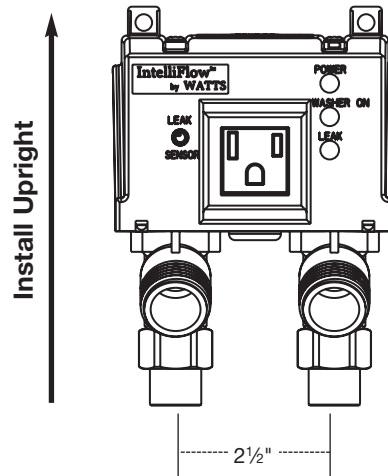

Figure 3
4. Loosen the two (2) adapter nuts and remove both adapters from IntelliFlow® valve body.
**Note:** Piping must be 2 $\frac{3}{8}$ " on center (Figure 3).